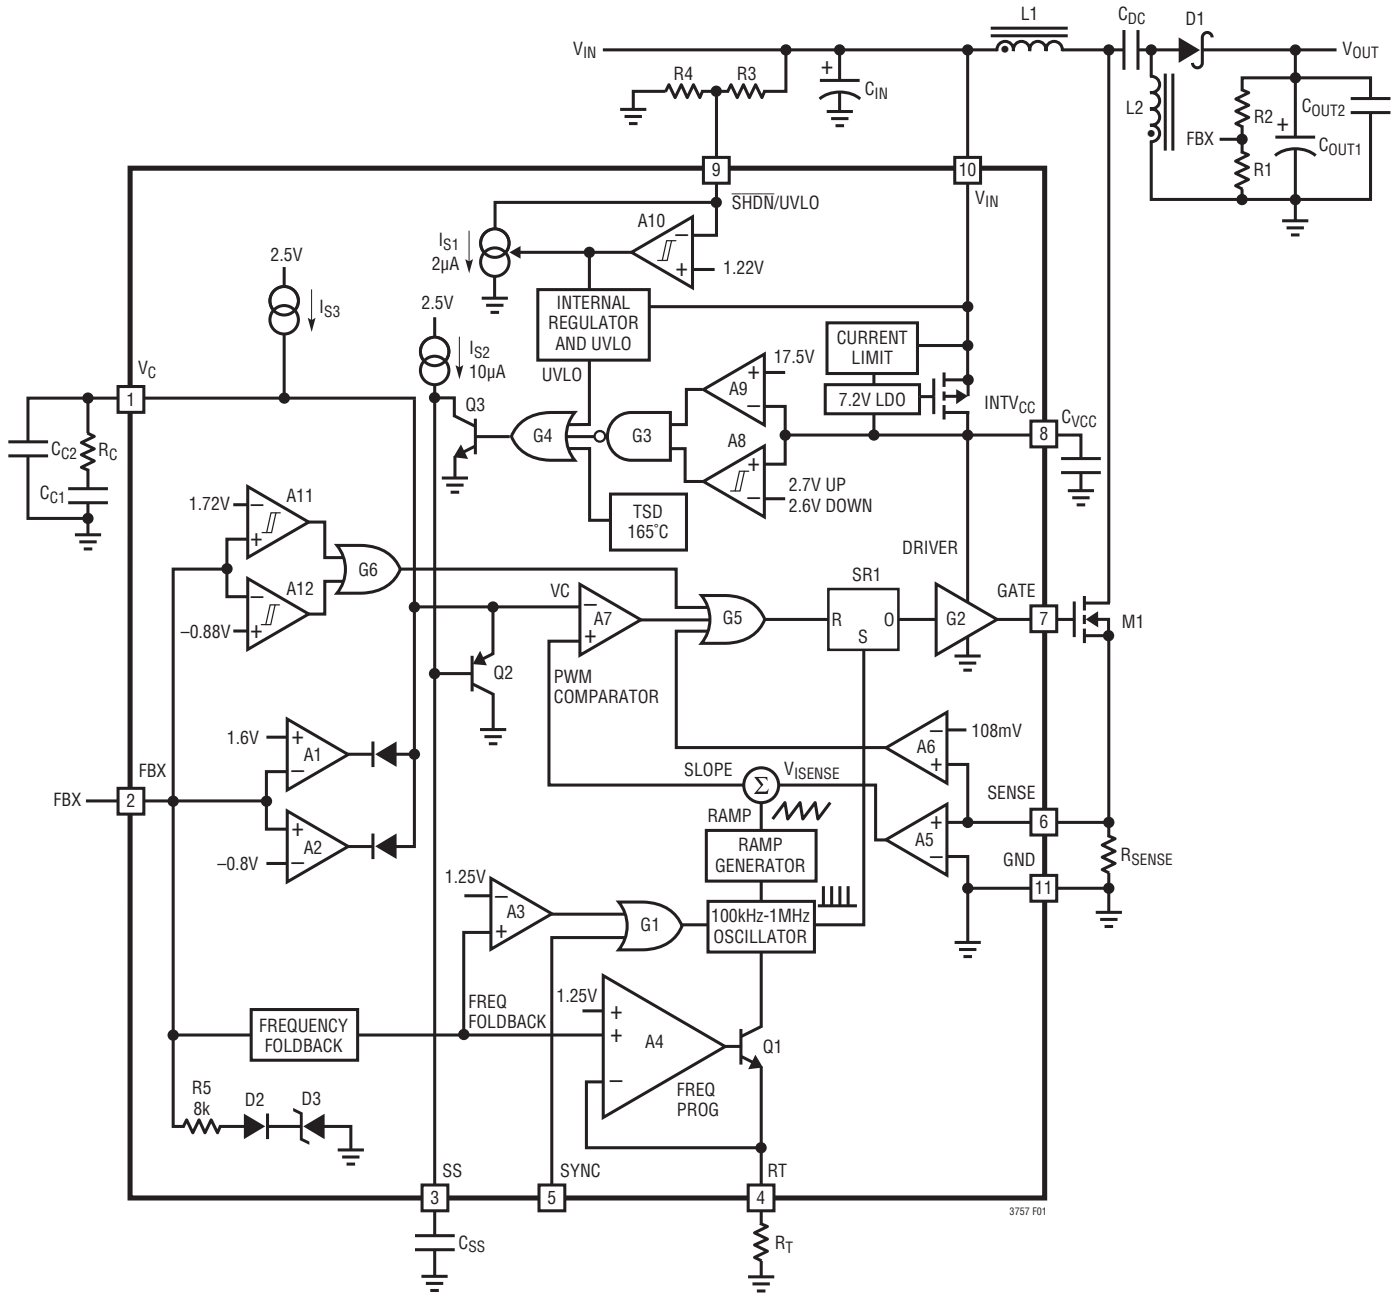

Figure 1. LT3757 Block Diagram Working as a SEPIC Converter
The LT3757 uses a fixed frequency, current mode control scheme to provide excellent line and load regulation. Operation can be best understood by referring to the Block Diagram in Figure 1.
The LT3757 is capable of generating either positive or negative output voltage with a single FBX pin. It can be configured as a boost, flyback or SEPIC converter to generate positive output voltage, or as an inverting converter to generate negative output voltage. When configured as a SEPIC converter, as shown in Figure 1, the FBX pin is pulled up to the internal bias voltage of 1.6V by a voltage divider (R1 and R2) connected from  $V_{OUT}$  to GND. Comparator A2 becomes inactive and comparator A1 performs the inverting amplification from FBX to  $V_C$ . When the LT3757 is in an inverting configuration, the FBX pin is pulled down to  $-0.8V$  by a voltage divider connected from  $V_{OUT}$  to GND. Comparator A1 becomes inactive and
The purpose of this current is to allow the user to program the rising hysteresis. The Block Diagram of the comparator and the external resistors is shown in Figure 1. The typical falling threshold voltage and rising threshold voltage can be calculated by the following equations:
An internal, low dropout (LDO) voltage regulator produces the 7.2V INTVCC supply which powers the gate driver, as shown in Figure 1. If a low input voltage operation is expected (e.g., supplying power from a lithium-ion battery or a 3.3V logic supply), low threshold MOSFETs should be used. The LT3757 contains an undervoltage lockout comparator A8 and an overvoltage lockout comparator A9 for the INTVCC supply. The INTVCC undervoltage (UV) threshold is 2.7V (typical), with 100mV hysteresis, to ensure that the MOSFETs have sufficient gate drive voltage before turning on. The logic circuitry within the LT3757 is also powered from the internal INTVCC supply.
The choice of operating frequency may be determined by on-chip power dissipation, otherwise it is a trade-off between efficiency and component size. Low frequency operation improves efficiency by reducing gate drive current and MOSFET and diode switching losses. However, lower frequency operation requires a physically larger inductor. Switching frequency also has implications for loop compensation. The LT3757 uses a constant-frequency architecture that can be programmed over a 100kHz to 1000kHz range with a single external resistor from the RT pin to ground, as shown in Figure 1. The RT pin must have an external resistor to GND for proper operation of the LT3757. A table for selecting the value of  $R_T$  for a given operating frequency is shown in Table 1.
The output voltage ( $V_{OUT}$ ) is set by a resistor divider, as shown in Figure 1. The positive and negative  $V_{OUT}$  are set by the following equations:
In the applications where  $V_{OUT}$  is pulled up by an external positive power supply, the FBX pin is also pulled up through the R2 and R1 network. Make sure the FBX does not exceed its absolute maximum rating (6V). The R5, D2, and D3 in Figure 1 provide a resistive clamp in the positive direction. To ensure FBX is lower than 6V, choose sufficiently large R1 and R2 to meet the following condition:
The LT3757 addresses this mechanism with the SS pin. As shown in Figure 1, the SS pin reduces the power MOSFET current by pulling down the  $V_C$  pin through Q2. In this way the SS allows the output capacitor to charge gradually toward its final value while limiting the start-up peak currents. The typical start-up waveforms are shown in the Typical Performance Characteristics section. The inductor current  $I_L$  slewing rate is limited by the soft-start function.
The optimum values depend on the converter topology, the component values and the operating conditions (including the input voltage, load current, etc.). To compensate the feedback loop of the LT3757/LT3757A, a series resistor-capacitor network is usually connected from the  $V_C$  pin to GND. Figure 1 shows the typical  $V_C$  compensation network. For most applications, the capacitor should be in the range of 470pF to 22nF, and the resistor should be in the range of 5k to 50k. A small capacitor is often connected in parallel with the RC compensation network to attenuate the  $V_C$  voltage ripple induced from the output voltage ripple through the internal error amplifier. The parallel capacitor usually ranges in value from 10pF to 100pF. A practical approach to design the compensation network is to start with one of the circuits in this data sheet that is similar to your application, and tune the compensation network to optimize the performance. Stability should then be checked across all operating conditions, including load current, input voltage and temperature.